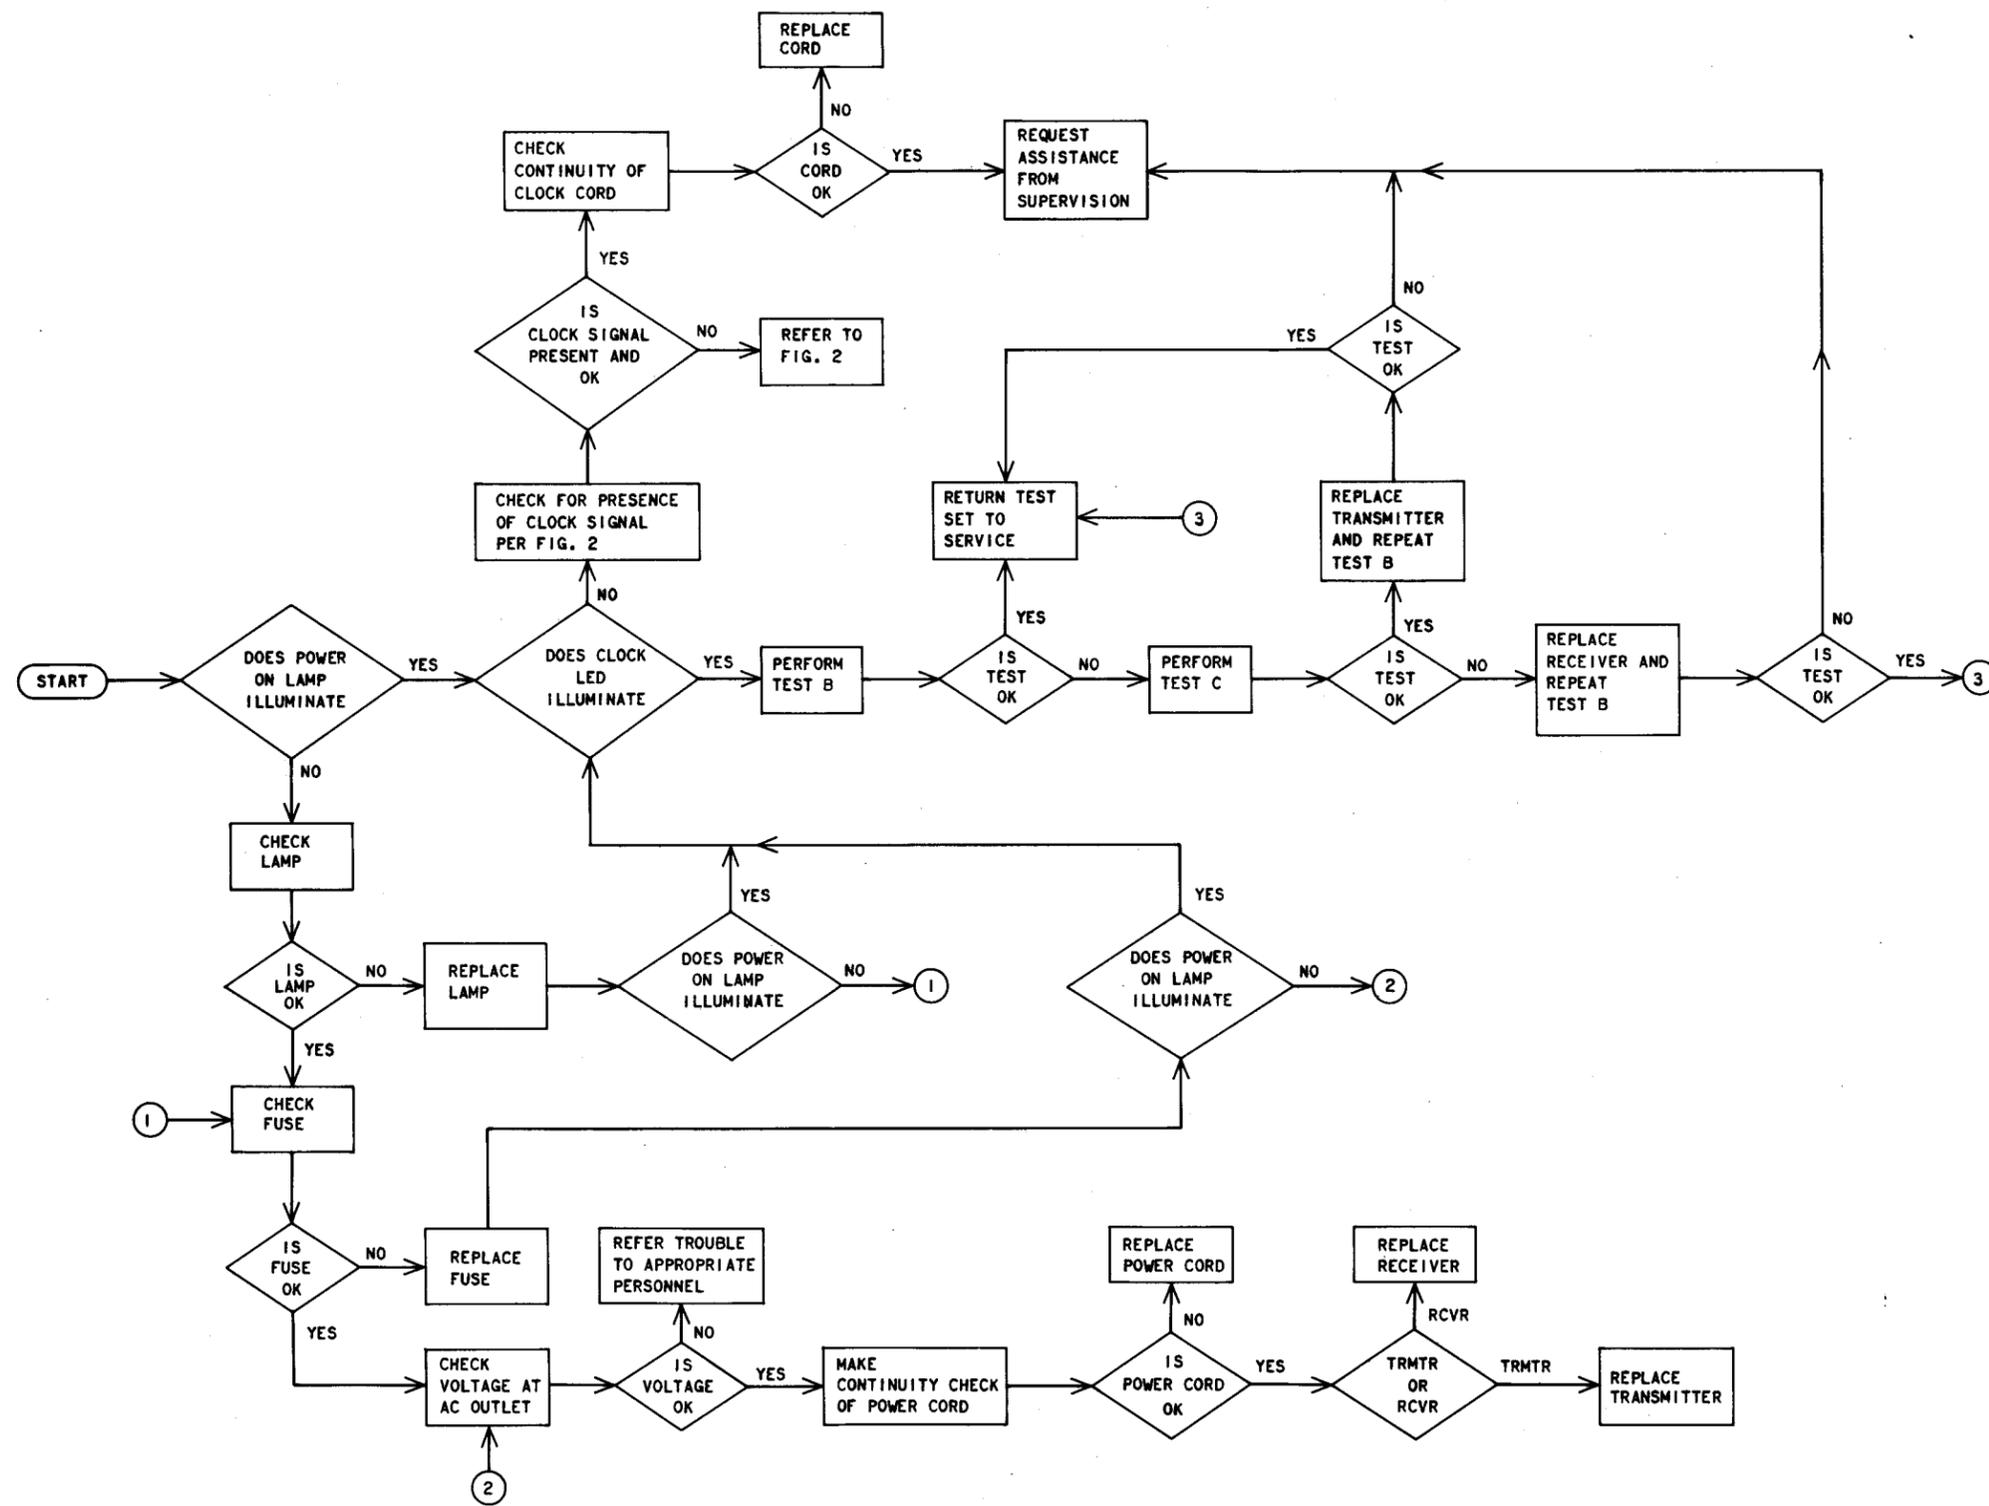

Fig. 1—Troubleshooting Flowchart for KS-20908 and KS-20909 Data Test Sets
4.02 The following flowcharts (Fig. 1 through 12) will aid in locating defective components in the testboard. The tests referred to in the flowcharts can be found in Section 666-600-501.